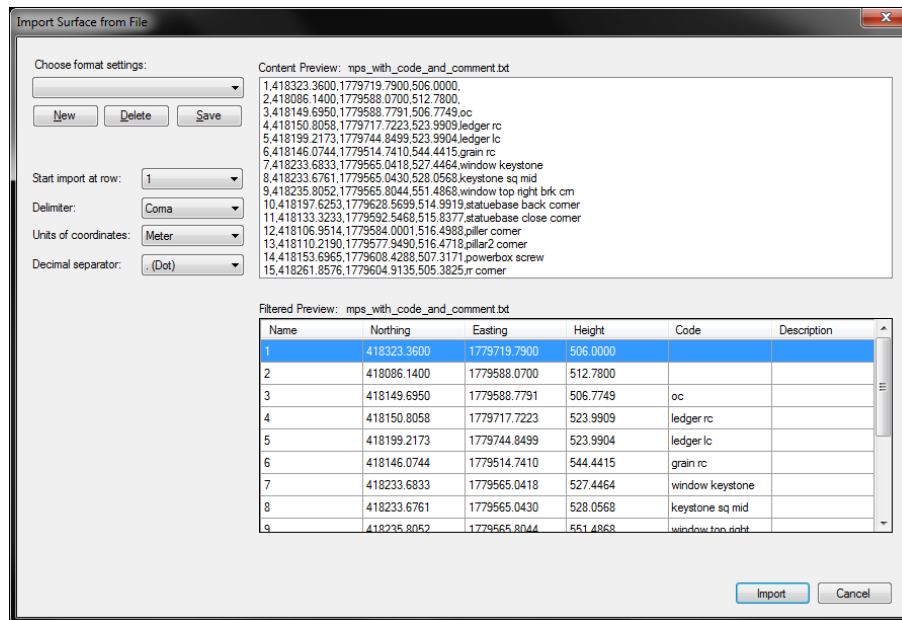

Figure 79: Import Surface from Points File Window
2. Surface objects can also be added by importing points from an XYZ file. Click on **Import surface from file...** The “Import Surface from File” window (Figure 79) opens.
6. In the “Surfaces” list, using the checkboxes in the left column, check the surfaces to be displayed (Figure 79). Revise them and determine if they are ready for volume calculation.